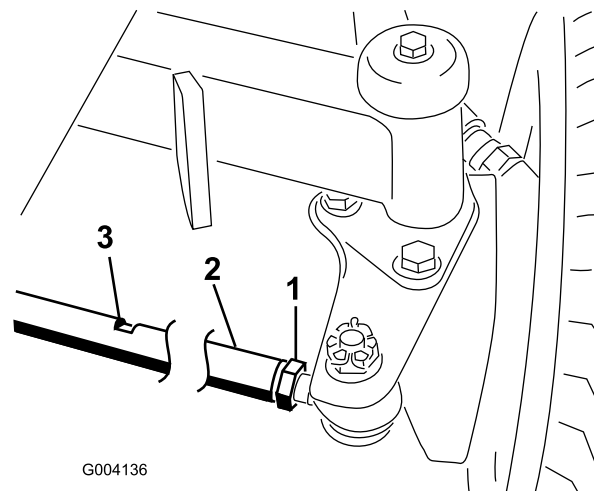

Figure 55
2. Loosen the jam nut on each end of the tie rod (Figure 55).